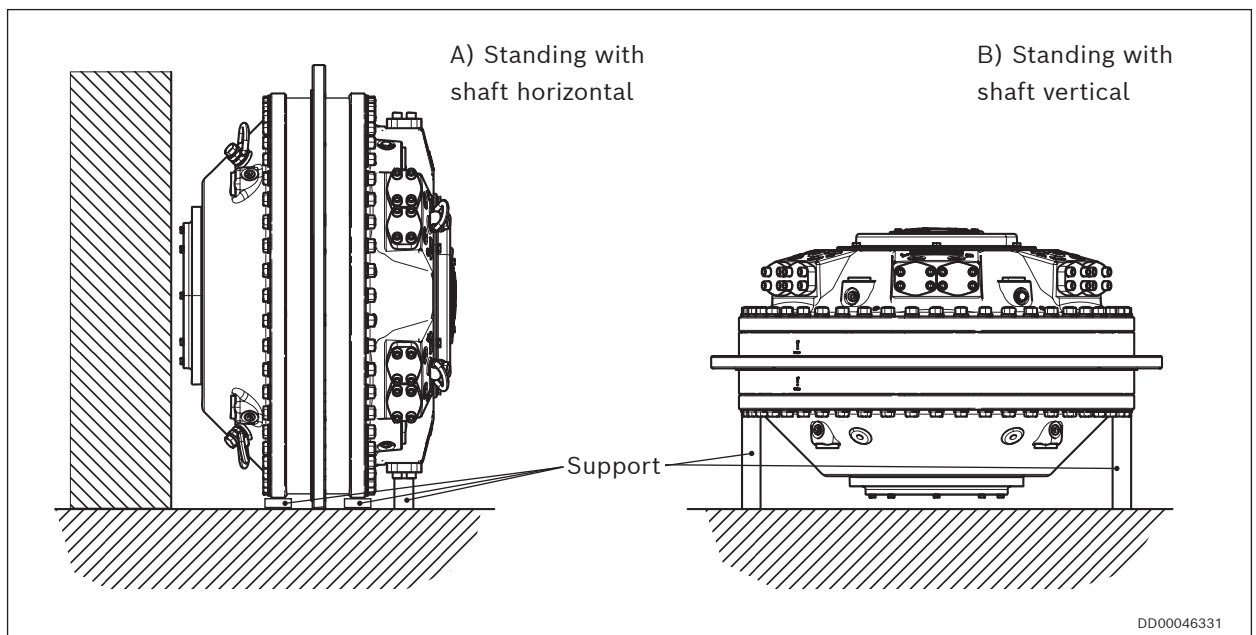

Fig. 12: CBm motor standing on a flat surface
- ▶ It is also advisable to provide supports at the mounting surface of the motor, see Fig. 12
When the motor is placed on a flat surface such as a floor, it must stand either on its outer diameter or on the suitably protected end face of the hollow shaft. It is also advisable to provide supports shown in Fig. 12.
1. Place the motor as shown in *Fig. 12, alt.A*) Standing with shaft horizontal.
5. Position the motor as shown in *Fig. 12, alt. A*) Standing with shaft horizontal or B) Standing with shaft vertical.